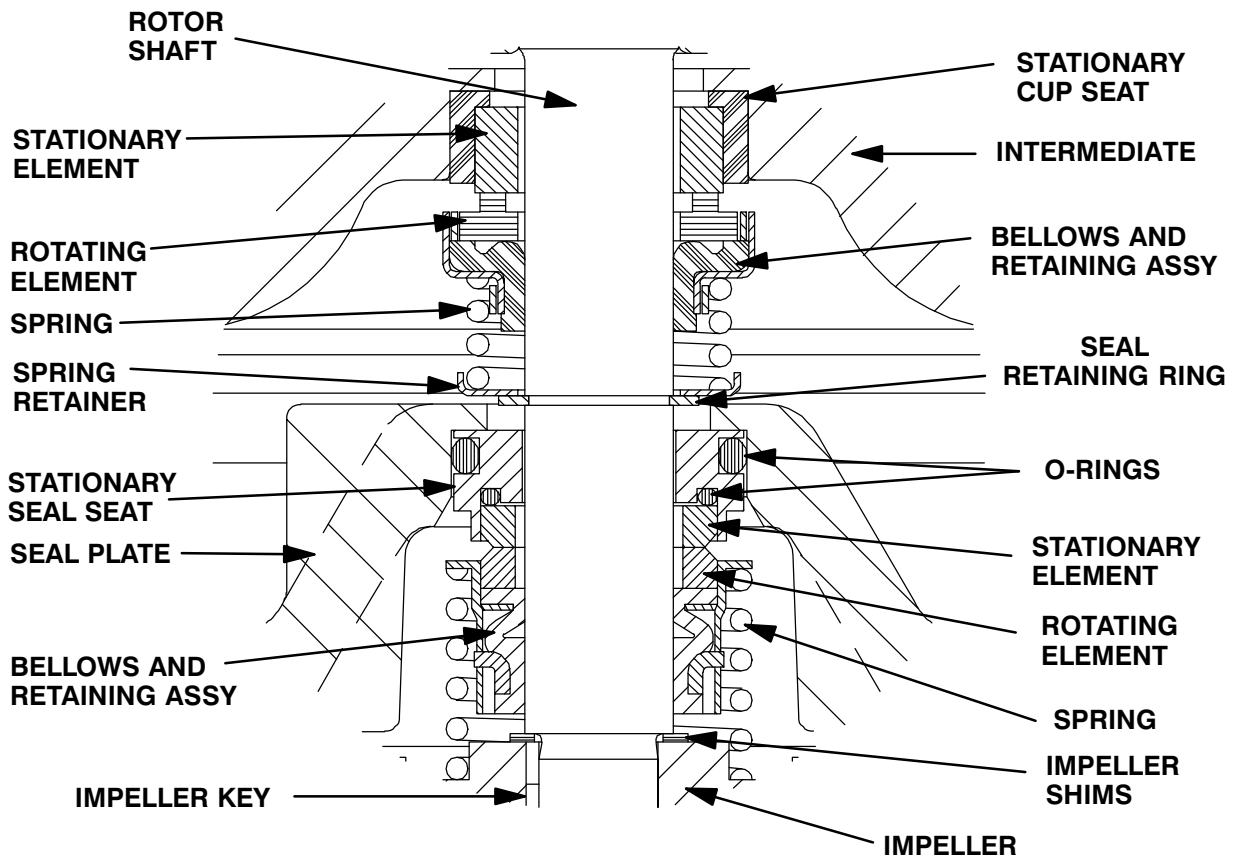

Figure 3. Upper And Lower Seal Assemblies
Install the shaft seals as illustrated in Figure 3.
Apply a **light** coating of oil to the seal seating surface on the shaft, the groove for the retaining ring (6), and I.D. of the bellows. Inspect the seal face to ensure that it is clean and dry. If cleaning is necessary, use a clean tissue to wipe in a circular pattern. Slide the seal rotating portion onto the lubricated shaft as shown in Figure 3. Apply firm, steady pressure on the seal retainer until it slides down the shaft and the seal faces contact.
ing ring (6). See Figure 3 for the proper order of seal assembly.
Unpack the stationary seat and element, and check that the O-rings are properly installed (see Figure 3). Subassemble the stationary element in the stationary seat. Apply a **light** coating of oil to the seal plate bore and the O.D. of the of the seal seat. Keep the sealing face dry.
Slide the seal spring over the shaft and bellows retainer. See Figure 3 for proper order of seal assembly.